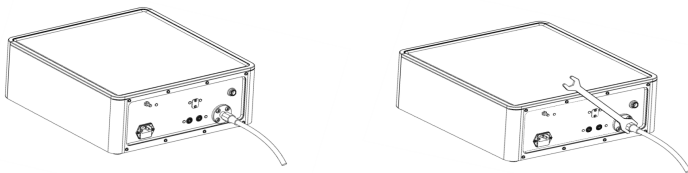

Figure 4-1 Connect the connecting tube of reducing valve and fasten it
1. Connect the connecting tube of reducing valve and the adaptive end of the insufflator with the CO₂ gas inlet of the insufflator. Use a force of about 11.8N.m (1.2kgf.m) to fasten it. As shown in Figure 4-1.
1. Use a wrench to connect the insufflator joint of the gas supply hose to the CO₂ gas inlet on the insufflator's rear panel, with a force of 11.8N.m (1.2kgf.m) to fasten it. As shown in Figure 4-1.